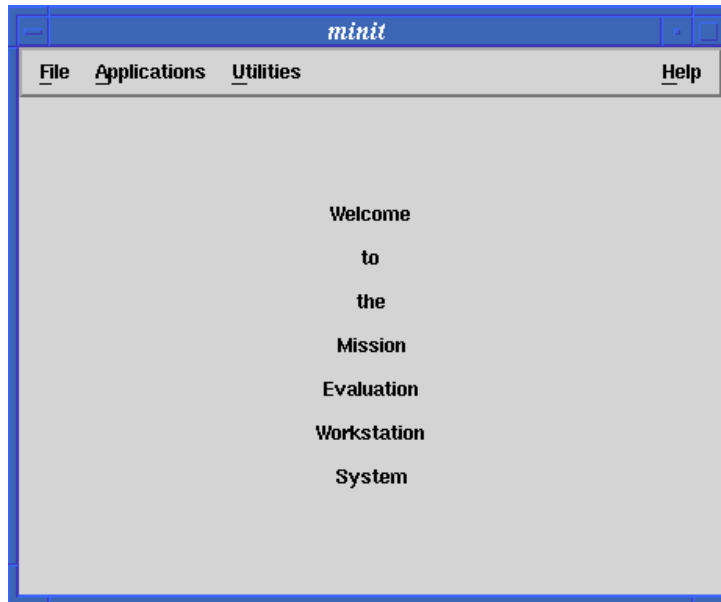
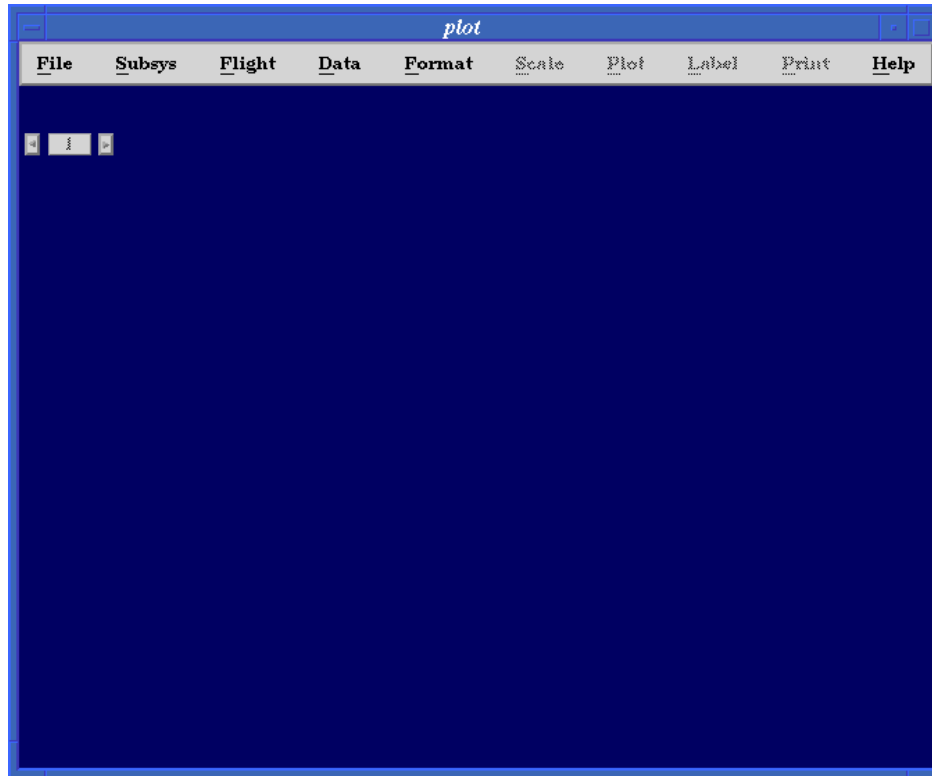

Figure 4-14. MEWS start screen
Figure 4-18. MEWS plot window
1. From the MASTER DNAV, Select Global Apps\Mission Evaluation Workstation System (MEWS)/ODRC. Figure 4-14 shows the MEWS start screen.
1. At the MEWS start screen (Figure 4-14), click **Applications|PLOT** to bring up the Plot window (Figure 4-18).